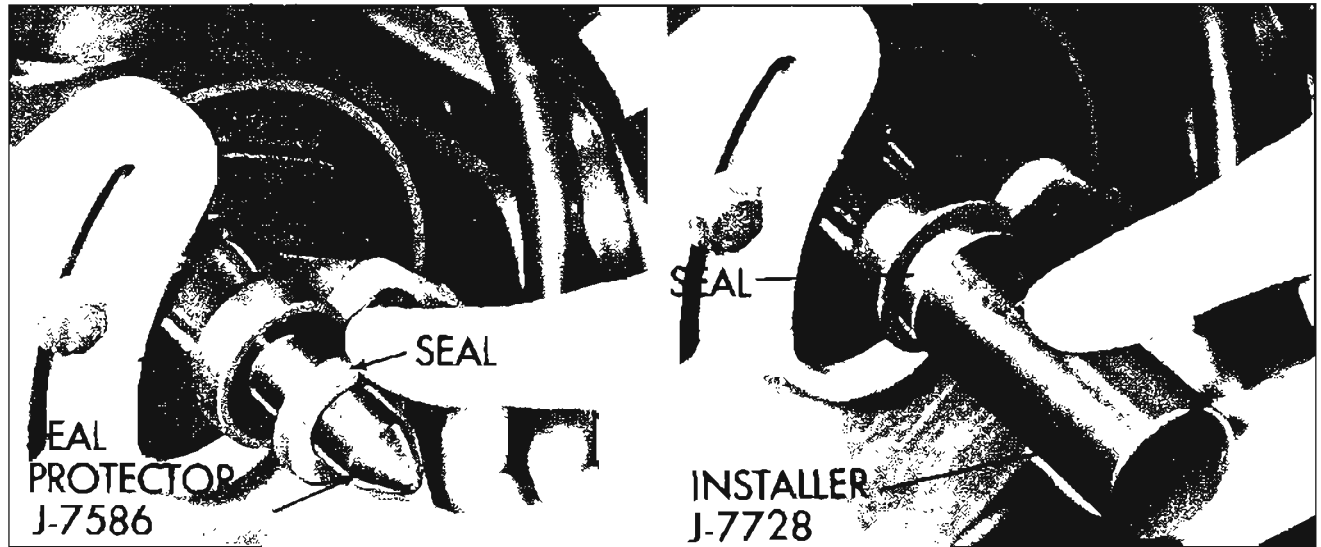

Figure 8-66—Installing Oil Pump Shaft Seal
1. Place Seal Protector J-7586 over shaft. Lubricate new seal with automatic transmission oil and drive in pump housing spring side first with Installer J-7728. See Figure 8-66. Just bottom seal in housing. Excessive force must not be used when driving seal in place.